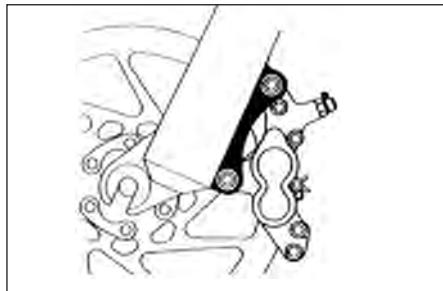
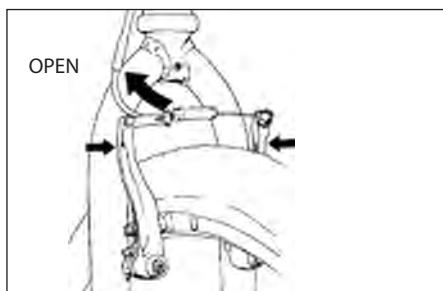

Figure 11.
Figure 12.
- (1) If your bike has rim brakes, disengage the brake's quick-release mechanism to increase the clearance between the tire and the brake pads (See Section 4.C fig. 11 through 15).
- (2) If your bike has rim brakes, disengage the brake's quick-release mechanism to increase the clearance between the wheel rim and the brake pads (see Section 4.C, figs. 11 through 15).
- (3) On a derailleuer gear system, pull the derailleuer body back with your right hand.
- 3. Some bicycle brakes, such as disc brakes (fig. 11) And linear-pull brakes (fig.12), Are extremely powerful.** Take extra care in becoming familiar with these brakes and exercise particular care when using them.
Most brakes have some form of quick-release mechanism to allow the brake pads to clear the tire when a wheel is removed or reinstalled. When the brake quick release is in the open position, the brakes are inoperative. Ask your dealer to make sure that you understand the way the brake quick release works on your bike (see figs. 11, 12, 13, 14 & 15) and check each time to make sure both brakes work correctly before you get on the bike.